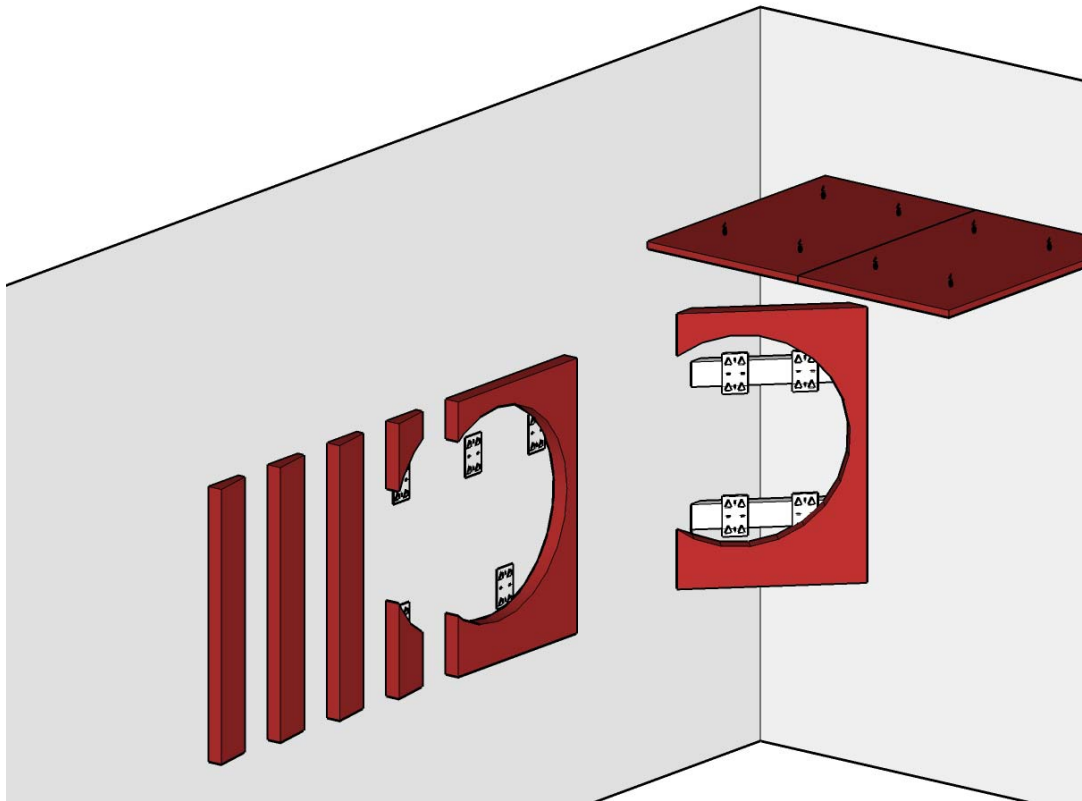

Fig 7 Clip Locations
- Attach three impale clips to the wall per Absorber using screws into studs, wallboard inserts and screws, or other appropriate fasteners. The spiky flanges should point toward the ceiling as shown in fig 7. The position of the impale clips does not matter as long as they are hidden behind the Absorber. We recommend that you position one clip 6 inches from the top edge and 6 inches from the left edge, another clip 6 inches from the top edge and 6 inches from the right edge, and the third clip 6" from the bottom edge, centered.
- Attach two impale clips to the wall per Abfuser Strip using screws into studs, wallboard inserts and screws, or other appropriate fasteners. The spiky flanges should point toward the ceiling as shown in fig 7. The position of the impale clips does not matter as long as they are hidden behind the Abfuser Strip. We recommend that you position one clip 6 inches from the top edge and 6 inches from the bottom edge, centered.
- In order to hang the Corner Traps in the front corners of the room, you will need to fashion four (two per Corner Trap) braces using 2x4 studs, cut to 19 5/8" inches long with 45 degree angle cuts on each end as shown in fig 7. These braces will span the corner, the impale clips will attach to them, and the Corner Trap will hang from the impale clips. Install one brace centered at 36 inches from the floor. Install the second brace centered at 60 inches from the floor. You will need to do this for both corners.
- Attach two impale clips to the top brace and one to the bottom using screws. The spiky flanges should point toward the ceiling as shown in fig 7. The position of the impale clips along the 2x4 brace does not really matter.
- Screw 4 open Eye Hooks into the ceiling in a rectangular pattern 24 inches by 12 inches (6 inches inside each edge of the Ceiling Panel) as shown in fig 7. Make sure that you secure the Eye Hooks in joists or use wallboard inserts. After all 4 Eye Hooks are installed, simply lift the wire loops (pre-installed in the Ceiling Panel) over the hooks. The Ceiling Panel will float a few inches below the ceiling.